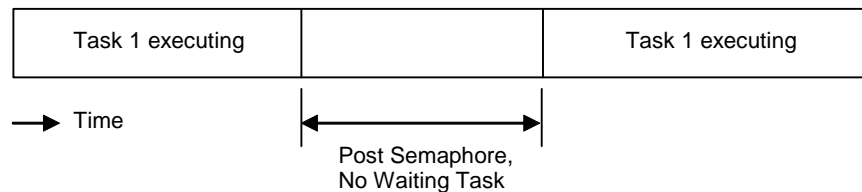

Figure C-12 Post Semaphore, No Waiting Task
- ❑ **Post a semaphore, no waiting task.** In this case, the Semaphore_post() function call does not cause a context switch as no other task is waiting for the semaphore. This is shown in Figure C-12.